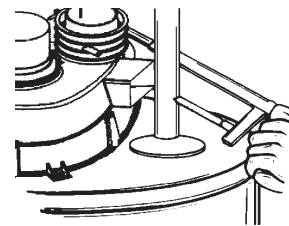

FIGURE 6.
6. If you have copper piping to the water heater, the two copper water pipes can be cut with a hacksaw approximately four inches away from where they connect to the water heater, see Figure 6. This will avoid cutting off pipes too short. Additional cuts can be made later if necessary. Disconnect the temperature-pressure relief valve drain line. When the water heater is drained, disconnect the hose from the drain valve. Close the drain valve. The water heater is now completely disconnected and ready to be removed.